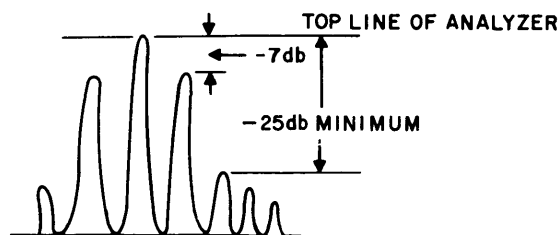

Figure 5-10. Carrier Double-Sideband Modulation Waveform
(34) Turn MODE switch to CW position and key unit by front panel KEY jack or by rear panel jumper across key terminals. Adjust potentiometer R20 on carrier generator Z109 for top line on analyzer. Unkey unit. Output should drop to 0 (-60 db) minimum. Key unit.
(35) Adjust potentiometer R47 on carrier generator Z109 until just before signal starts to decrease.
(36) Turn MODE switch to FSK position and adjust potentiometer R56 on frequency shift generator Z108 for top line on analyzer. Turn MODE switch to FAX position. Level should remain the same.
(37) Return MIKE/LINE controls to zero position; switch audio input to single tone and turn MODE switch to AM position. Remove 3 db of attenuation from input attenuator of analyzer.
(38) Adjust potentiometer R69 on carrier generator Z109 for top line on analyzer.
(39) Using LSB or USB MIKE/LINE control, modulate displayed carrier so that sidebands (as measured with input attenuator of analyzer) are 7 db below carrier.
(40) Repeat steps 38 and 39 until the waveform of figure 5-10 is obtained. Distortion should be -25 db minimum below carrier as shown.